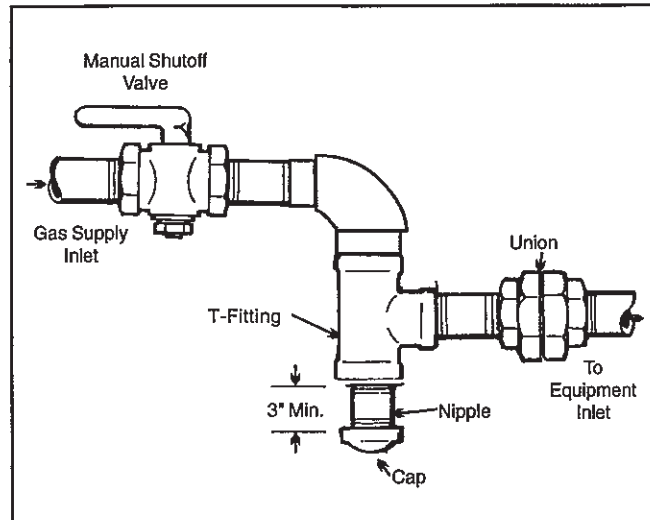

Figure 5. The proper design for a sediment trap / drip leg.
- Install a sediment trap (drip leg) ahead of the gas controls (see Figure 5). Fit the trap with a threaded cap which can be removed for cleaning.